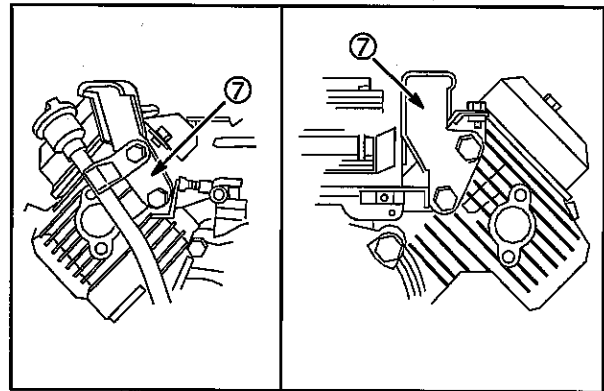

Fig. 3
8. If necessary remove 4 screws and 2 PTO side fuel tank base supports (7), Fig. 3.
2. Install 2 PTO side fuel tank base supports (7), Fig. 3. Torque screws to 140 in. lbs. (16 Nm).